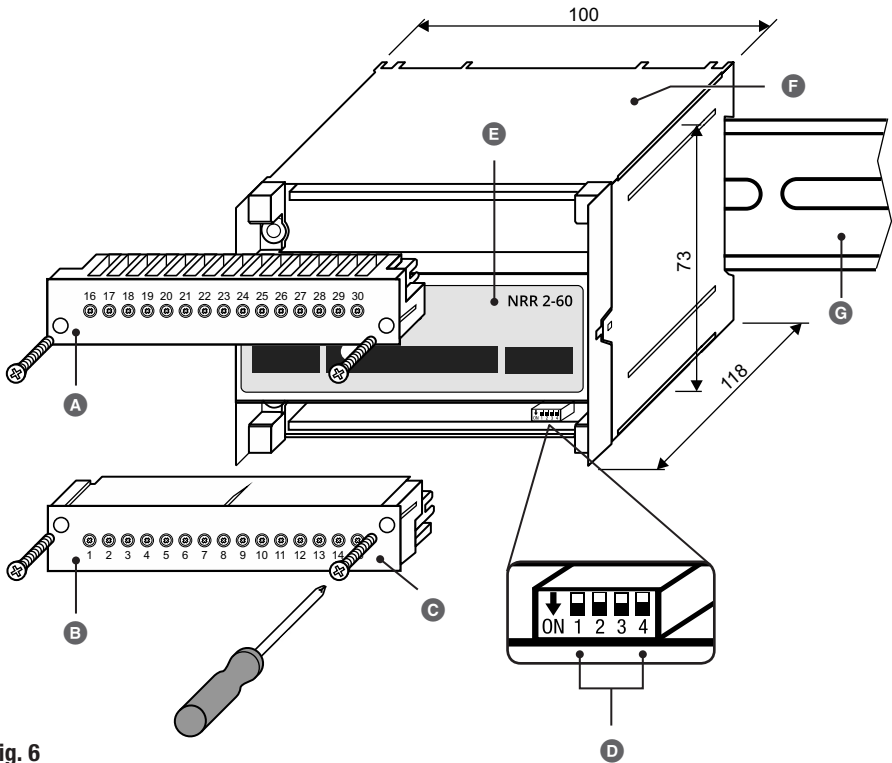

Fig. 6
You can change the baud rate and controller group of the NRR 2-60 level controller at any time using code switch **Ⓧ** (see **Fig. 6**).
2. Unscrew and pull off the lower terminal strip, see **Fig. 6**.
3. Set code switch **Ⓧ** (see **Fig. 6**) as desired, see page 23, **Fig. 10**.
For operation, you must define the controller group and baud rate for the level controller on code switch **Ⓢ** Fig. 6. The desired controller functions are achieved by connecting the different level electrodes and configuring the URB 60 visual display and operating unit as appropriate.